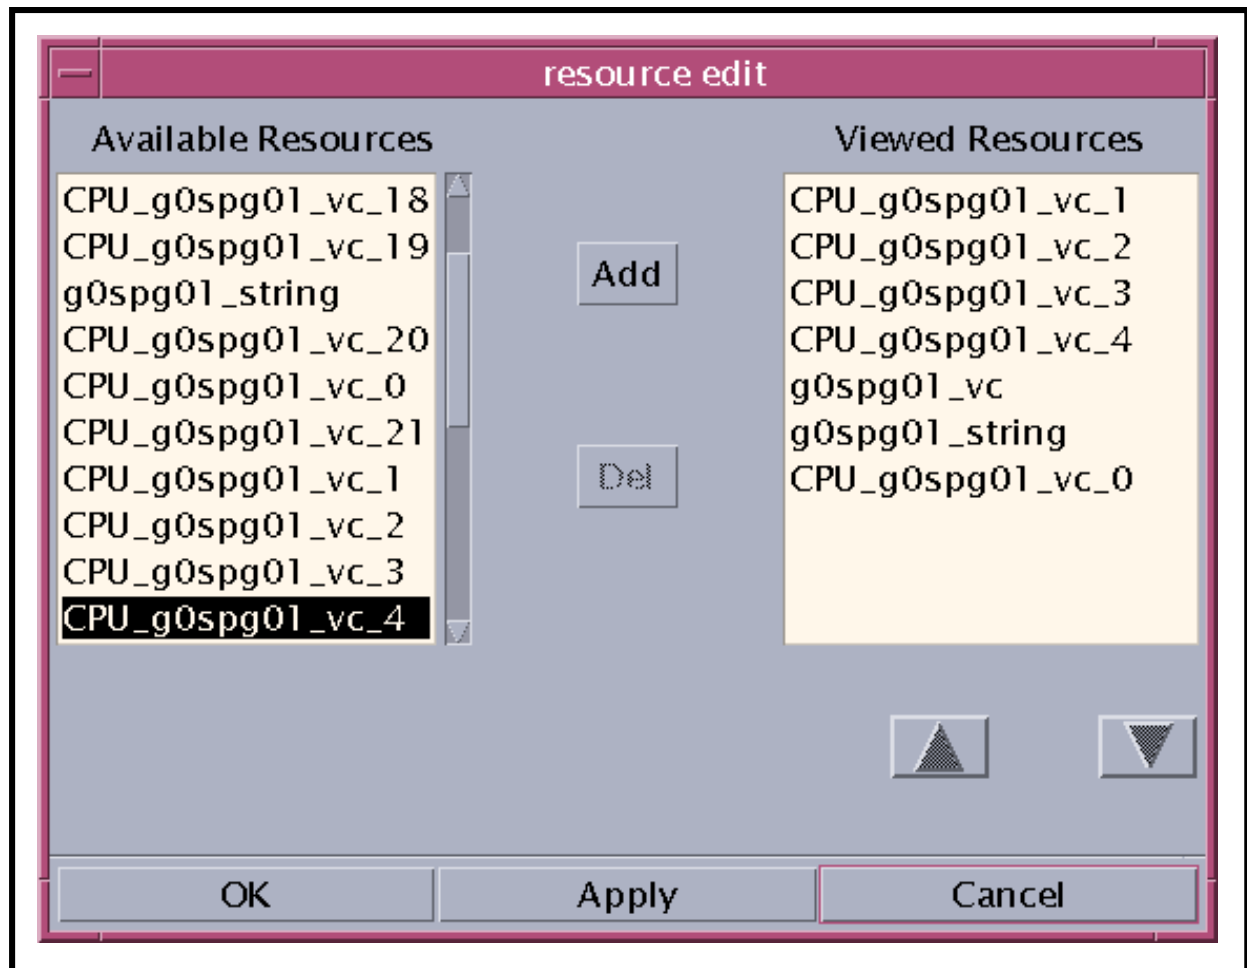

Figure 37. Resource Edit Window
- The **Resource edit** window (Figure 37) is displayed.